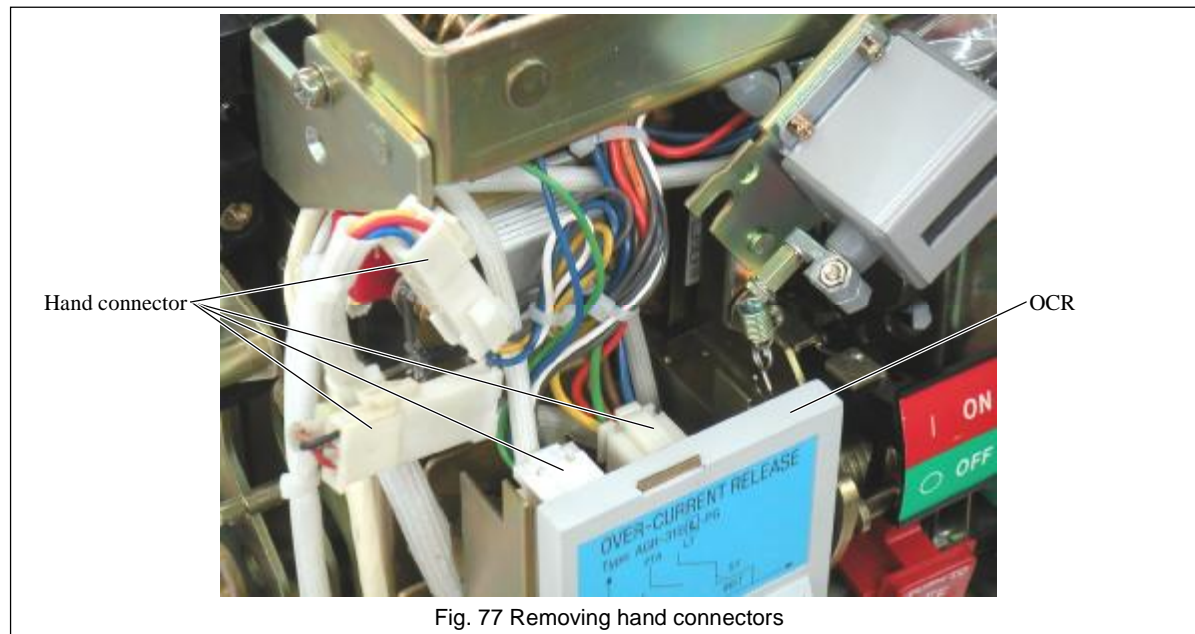

Fig. 77 Removing hand connectors
- 6) Pull out the OCR as shown in Fig. 77, remove the hand connector(s) above the OCR and place it on the floor. The hand connector(s) below the OCR does not require to be removed. The type and quantity of the hand connectors vary depending on the specification of the ACB.